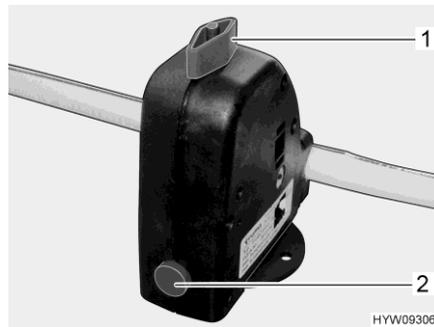

Fig. 155 Safety/drainage valve (boiler)
The boiler is equipped with a safety/drainage valve (Fig. 155). The safety/drainage valve prevents water in the boiler from freezing, when there is frost and the heater is not switched on.
- Close the safety/drainage valve. Turn the knob (Fig. 155,1) perpendicular to the safety/drainage valve and push the push button (Fig. 155,2) in.
- Open the safety/drainage valve. To do this turn the knob (Fig. 155,1) parallel to the safety/drainage valve. The push button (Fig. 155,2) jumps out. The boiler is drained to the outside by the safety/drainage valve.